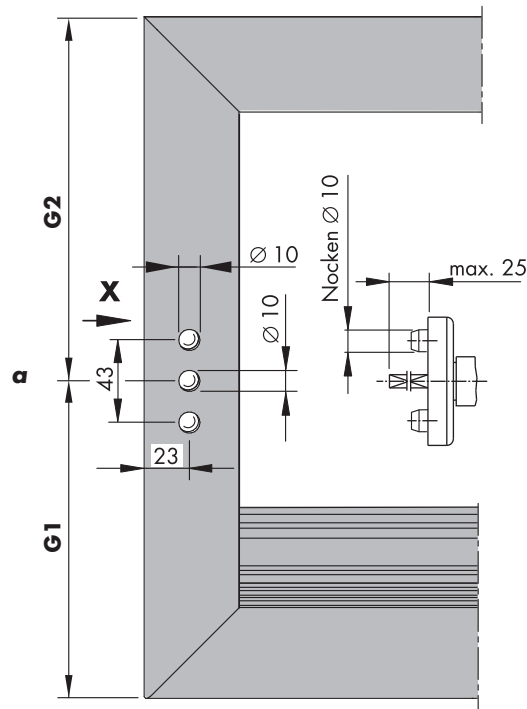

Figure 1
- a Perform section processing for window handle (1) (Figures 1+2).